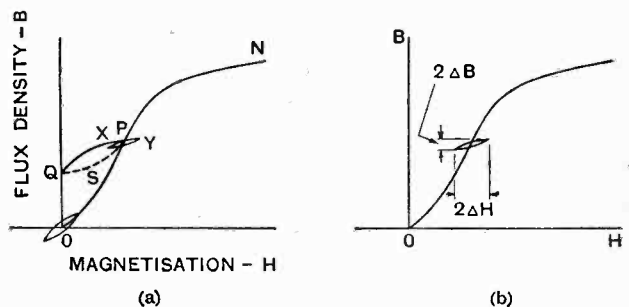

Fig. 9.—Curves showing the effect of D.C. feed on the permeability of the choke core.
Suppose we examine the influence of these three quantities separately. The inductance *per se* is a quantity which depends upon the number of turns, the diameter and length of the coil, and upon the iron core. The latter should have an air gap if large direct currents pass through the winding, to avoid magnetic saturation. The iron should consist of laminations, since we are dealing with alternating currents of audio-frequency. The permeability of the iron, by virtue of which the inductance of the coil is augmented manifold, depends upon three things: (1) the D.C. feed current, (2) the value of the ripple current, (3) the frequency of the ripple current. In fact, the state of the iron is identical with that in an intervalve transformer, where the A.C. magnetisation is superposed upon the D.C. magnetisation. The influence of the D.C. feed on the permeability is illustrated in Fig. 9, which is reproduced from a former issue.1 Provided one keeps away from the saturation point a differential permeability of about 280 may be expected at 500 cycles.2